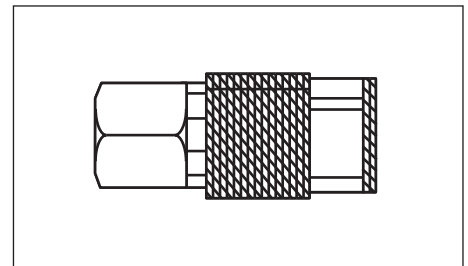

Figure 3 - Quick Coupler
**QUICK COUPLER** — A quick coupler is designed to work in combination with a quick plug to quickly and easily join a pneumatic tool to an air hose (see Figure 3).